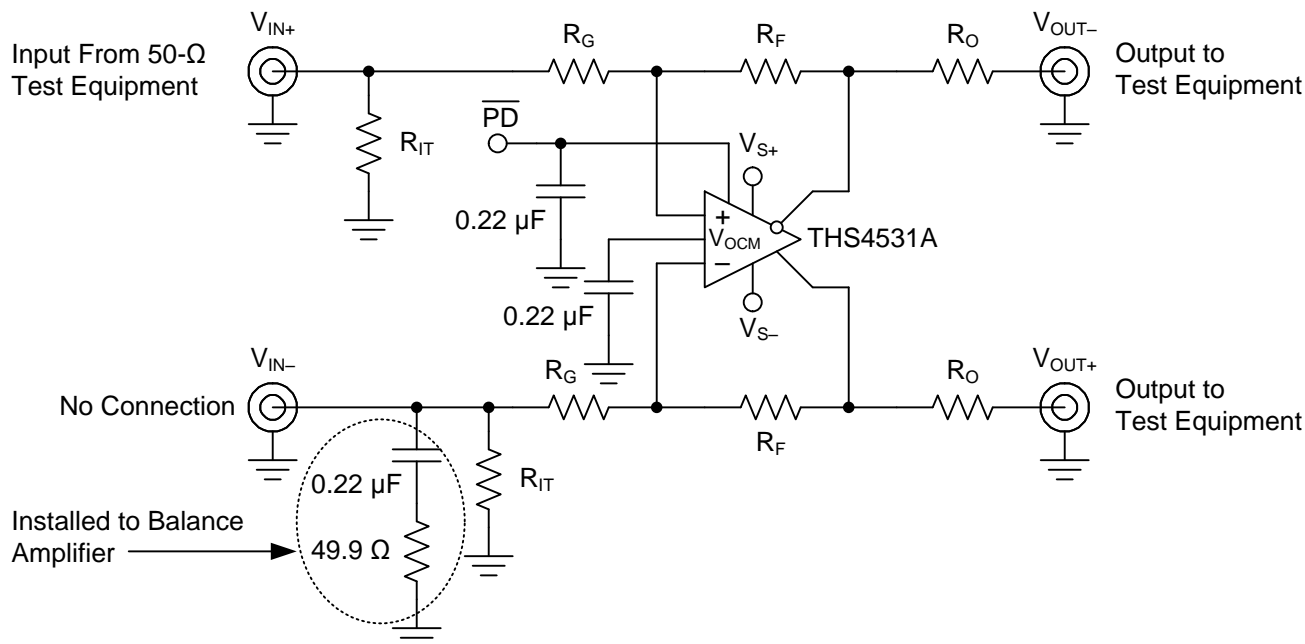
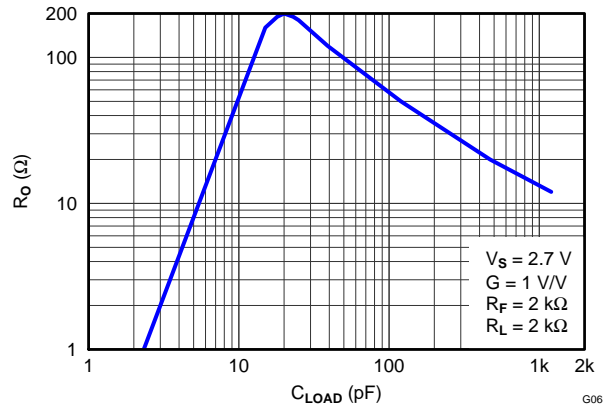
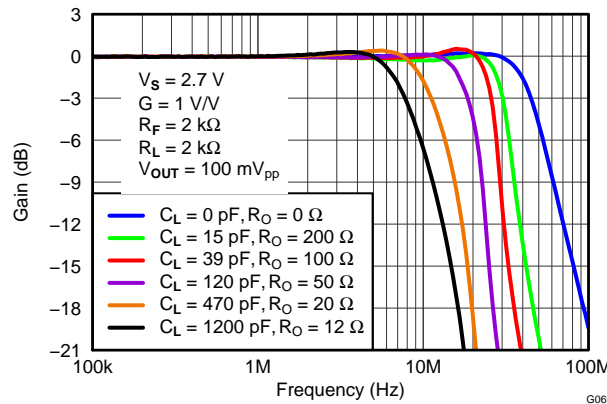

Figure 69. Slew Rate, Transient Response, Settling Time,  $Z_o$ , Overdrive Recovery,  $V_{OUT}$  Swing, and Turn-on/off Test Circuit
Figure 80. Recommended Series Output Resistor vs Capacitive Load for Flat Frequency Response
Figure 81. Frequency Response for Various  $R_O$  and  $C_L$  Values
The circuit shown in Figure 69 is used to measure slew rate, transient response, settling time, overdrive recovery, and output voltage swing. Turn on and turn off times are measured with 50 $\Omega$  input termination on the  $\overline{PD}$  input, by replacing the 0.22 $\mu$ F capacitor with 49.9 $\Omega$  resistor.
Inserting  $R_O$  will compensate the phase shift and restore the phase margin, but it will also limit bandwidth. The circuit shown in Figure 69 is used to test for best  $R_O$  versus capacitive loads,  $C_L$ , with a capacitance placed differential across the  $V_{OUT+}$  and  $V_{OUT-}$  along with 2k $\Omega$  load resistor, and the output is measure with a differential probe. Figure 80 shows the optimum values of  $R_O$  versus capacitive loads,  $C_L$ , and Figure 81 shows the frequency response with various values. Performance is the same on both 2.7V and 5V supply.
4. A series output resistor is recommended to be placed as near to the output pin as possible. See Figure 80 "Recommended Series Output Resistor vs. Capacitive Load" for recommended values given expected capacitive load of design.